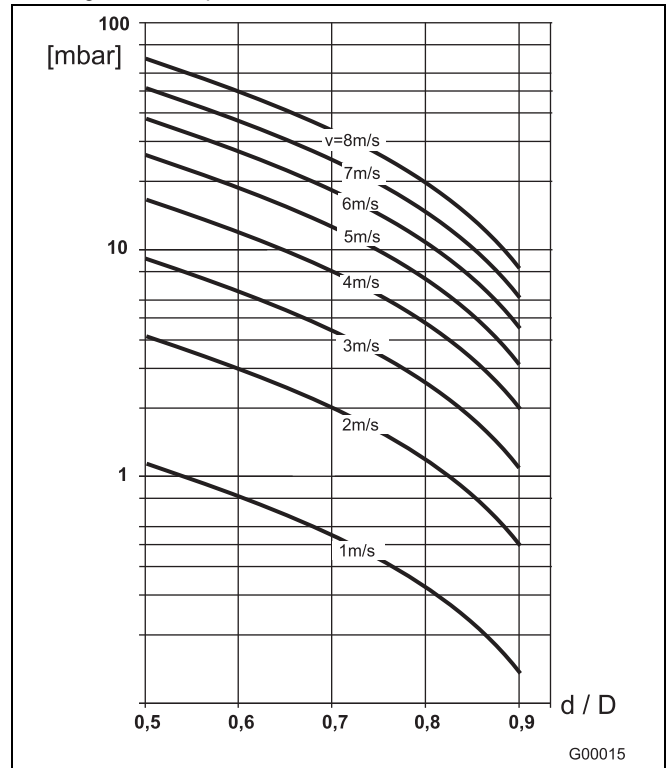

Fig. 38
2. Determine the flow velocity based on the flow range nomograph (Fig. 38).
3. Read the pressure drop on the Y-axis in Fig. 38.